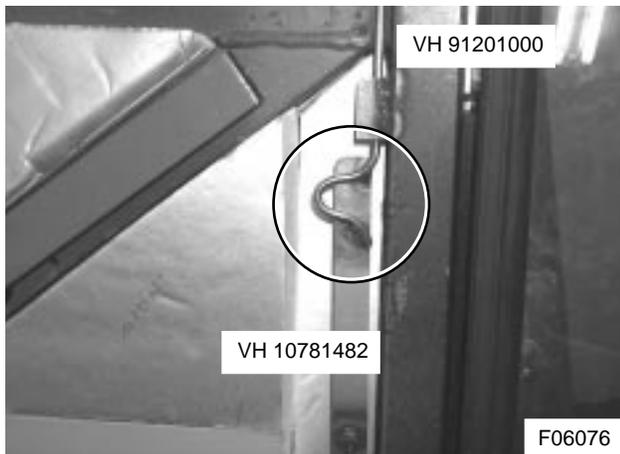

Figure 15: Push/pull rod weld
- 4) Weld the bent part of push/pull rod VH 91201000, which is still connected to the upper rotary latch assembly, to the flat end of push/pull rod VH10781482 (see Figure 15).